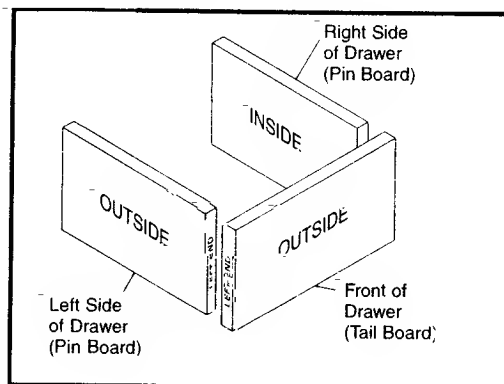

Fig. 6
1. Arrange the drawer front and side pieces as shown in Fig. 6.